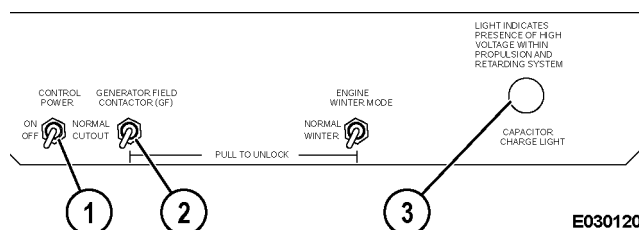

FIGURE 3-4. INFORMATION DISPLAY PANEL
2. Verify that the generator field contactor (GF) switch (2, Figure 3-4) in the low voltage area of the control cabinet is in the CUTOFF position.
3. Move the control power switch (1) to the ON position for a minimum of 30 seconds. Then, turn the control power switch to the OFF position.